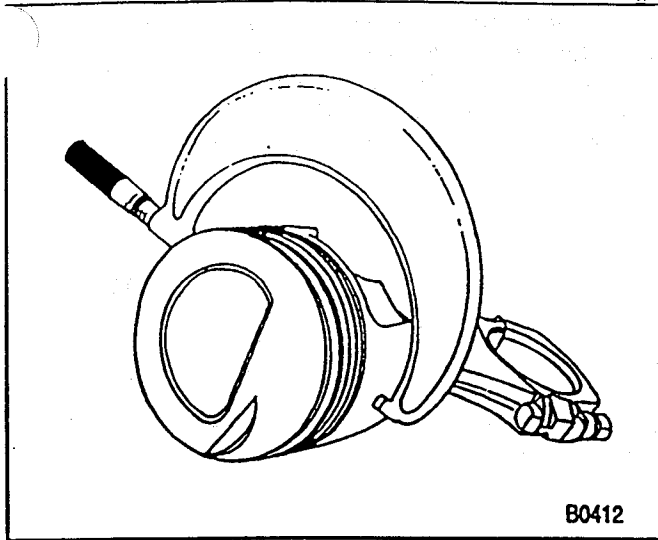

Figure 45—Measuring Piston Diameter
- B. Piston diameter. Measure the skirt at a right angle to the piston pin hole (figure 45).